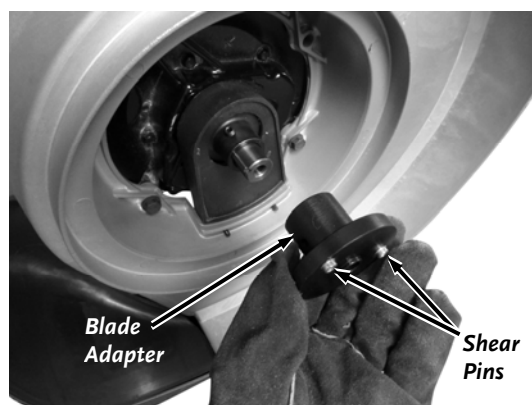

Figure 23
2. Remove the Blade Adapter from the Engine Shaft (**Figure 23**).